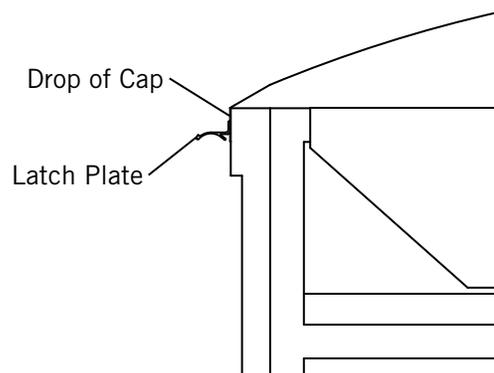

Figure 14-3
10) **Figure 14-3.** Pull cap tight when securing with Latch Plate or Roll Stop.